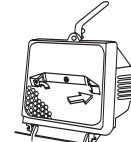

Fig. 6
- Step 4:** Using gloves or soft cloth, press the old bulb to one side of the spring loaded socket as indicated on the metal reflector. Remove opposite end of bulb from the other side of the socket. Remove the new bulb from its package making sure not to touch bulb with bare hands. Reverse this procedure to install a new replacement bulb (Fig. 6).